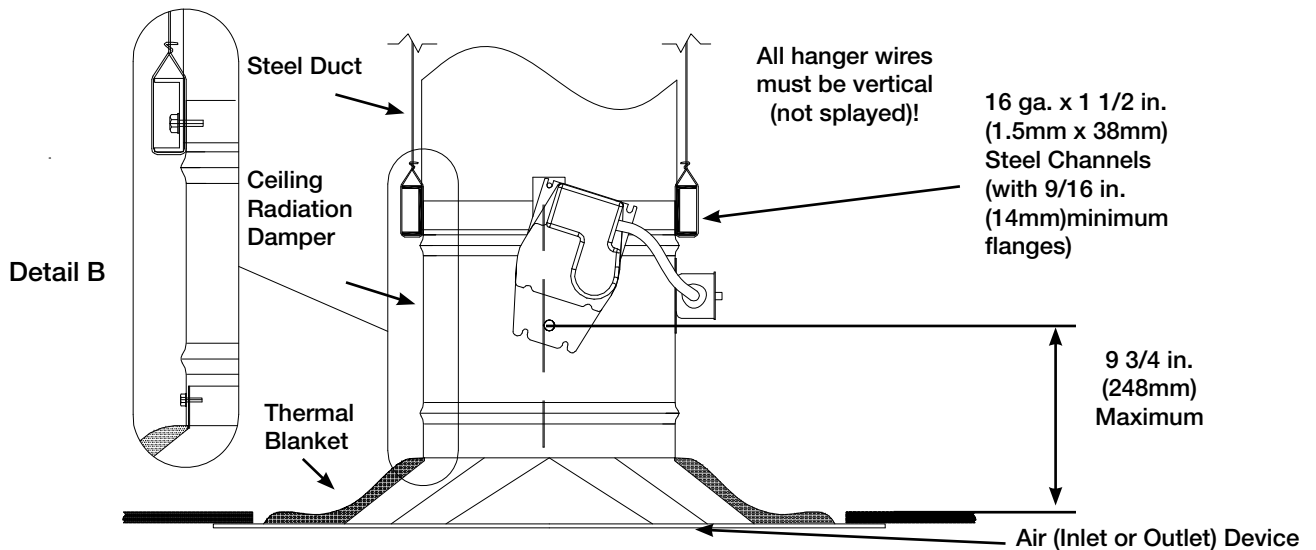

Figure 6
1. Ceiling radiation damper may be connected directly to the air device neck and then the duct drop connected to the damper (See Detail B, Figure 6).
Models CRD-501 may be installed as shown in **Figure 6**.